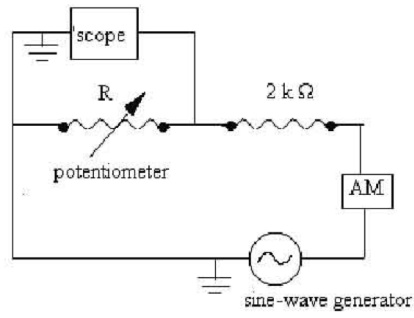

Figure 2.
3. Now set up the circuit shown below in Fig. 2. Use the DMM, set on AC 1 mA scale, as the AC ammeter. The PicoScope is functioning as an AC voltmeter. Be sure that the "Ground" (black) terminal connections to the PicoScope are attached to the same point in the circuit - it is vital that all parts of the circuit share a common ground (otherwise you will likely get a lot of unwanted noise in your signal).